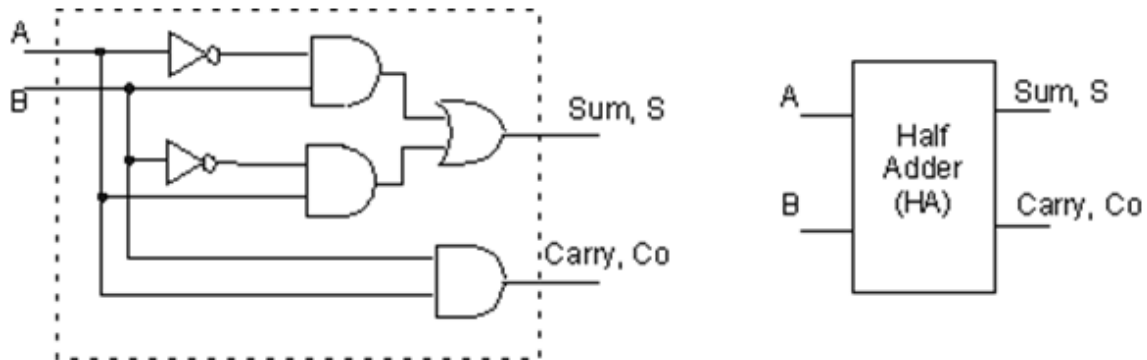

Figure 2: Schematic and symbol of a half adder (HA)
1. Now we will use VHDL to construct a Half Adder. VHDL is a programming language used to code logic circuits, as an alternative to schematics. Read the Basic Coding in VHDL tutorial and construct the HA in code. Using the Figure 2, translate the schematic into logical code. For a refresher on logic gates read the short introduction to gates.